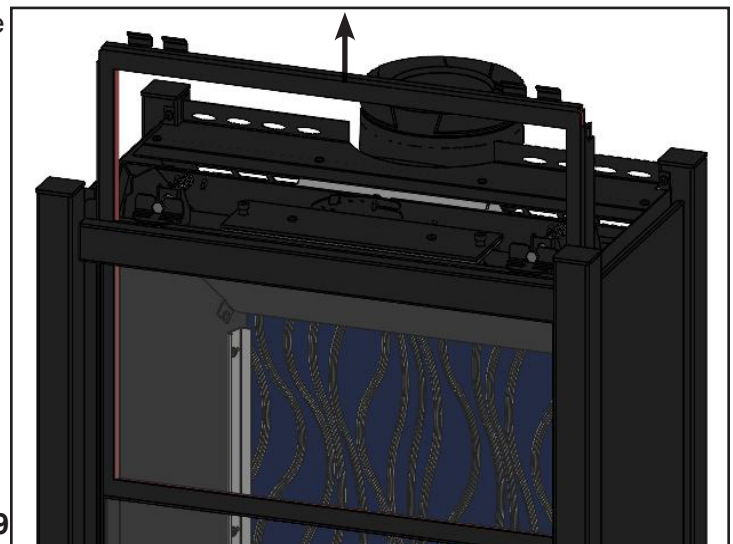

Fig. 9
3. Carefully slide the Door up and out of the appliance and set aside. (Fig. 9) **Note: Press the door glass to the door frame when removing the door as the glass is only held in place with silicone.** Remove the warning label affixed to the door glass at this time.